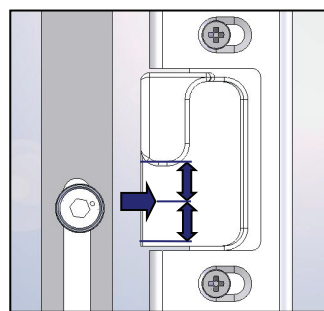

Fig 2.
- Individual rollers / mushrooms should enter their keep 'mouth' centrally when closing the door – **Fig 2**.